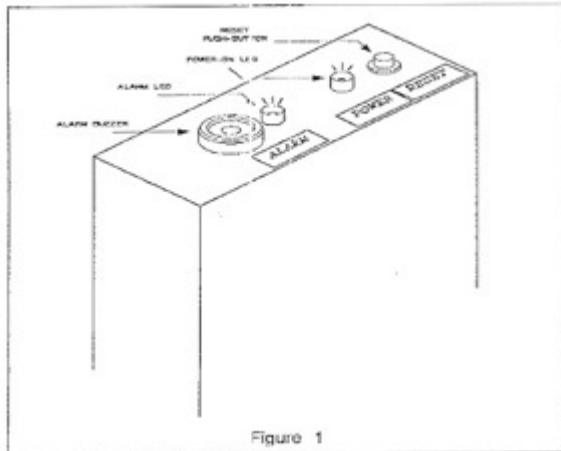

Figure-1: "Black Box" electronics enclosure
- **“Black Box”** with internal pc-board and electronics providing “Alarm”, “Alarm” indicator light, “Alarm Reset” button, “Power On” indicator, and dry-contact signal interface to Passenger Boarding Bridge (PBB) controls (see Figure-1 below). The “Black Box” electronics provides all functionality to monitor the “Safety Shoe” sensor and cable and provide contact closure output to the PBB “Vertical Down” control.